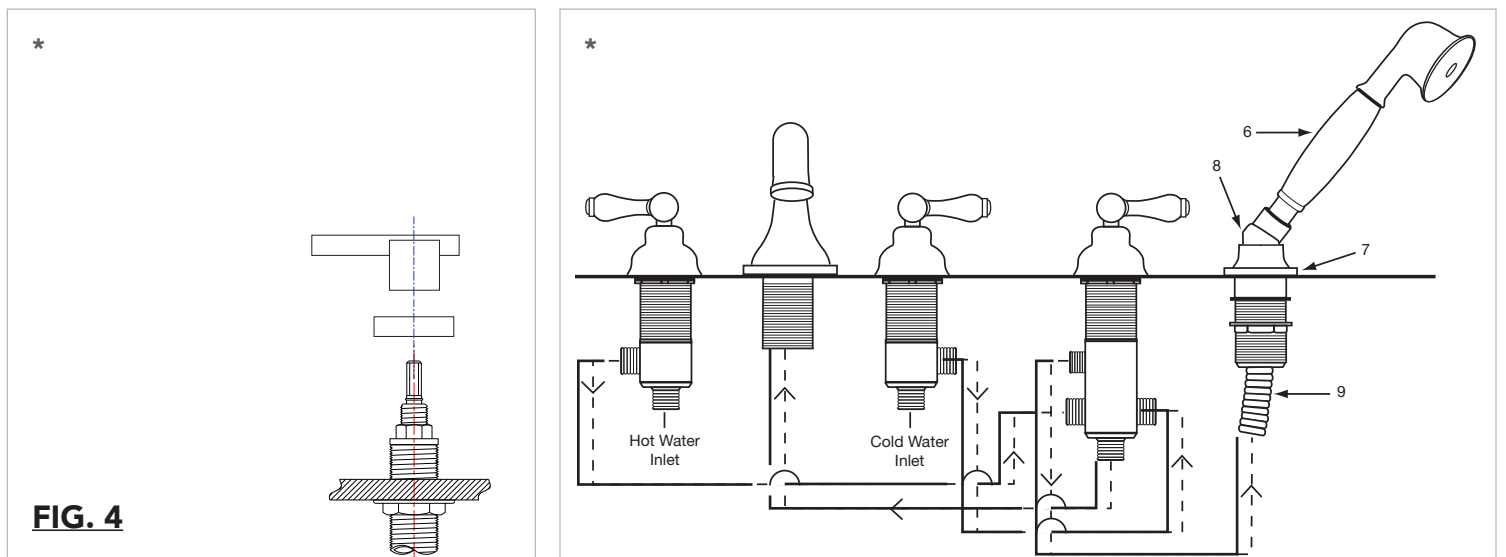

FIG. 4
7. Install handle. **See Fig. 4**
1. Handle trim **4404 and 5504** install with set screw into side of valve shaft **Fig.4**